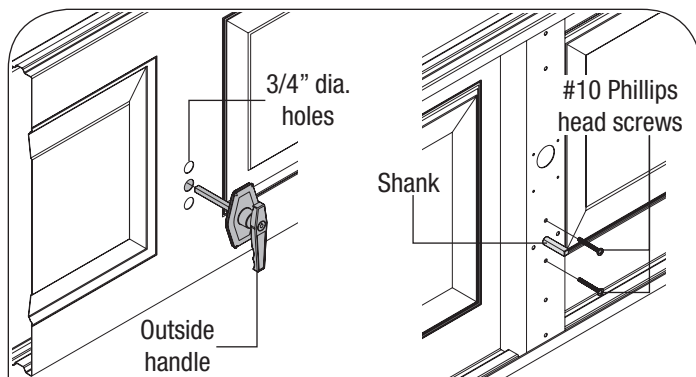

FIG. 4
**8000/8100/8200 DOORS, (SEE FIG. 4):** Align the outside handle assembly with the handle pointing towards the floor and insert the assembly through the previously drilled 3/4" diameter holes in the section. Secure the outside lock handle to the section with (2) #10 phillips head screws.